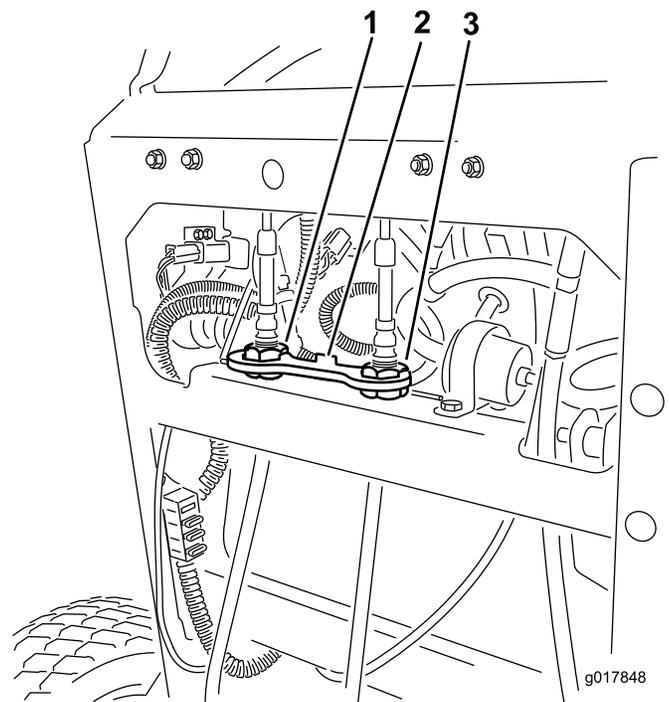

Figure 71
6. Install the cable lock onto the cable-adjusting nuts to secure the adjustment (Figure 71).